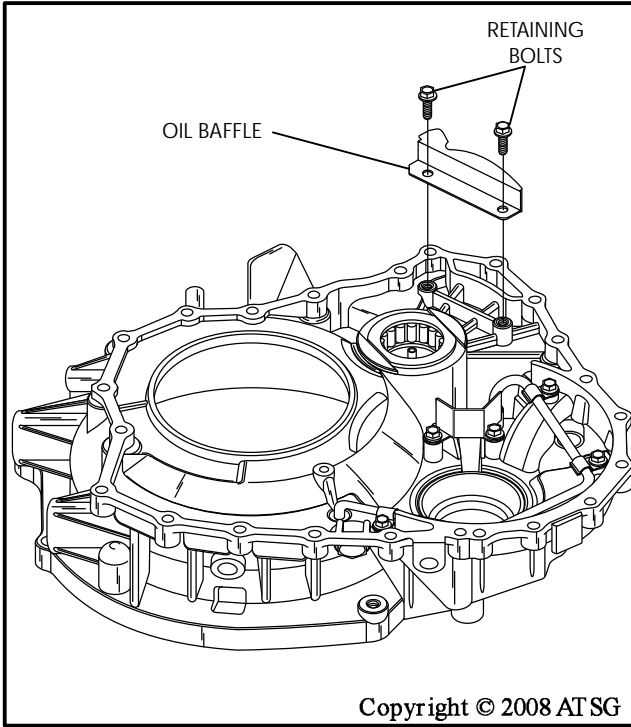

Figure 94
6. Install the oil baffle, as shown in Figure 94, if it was removed.